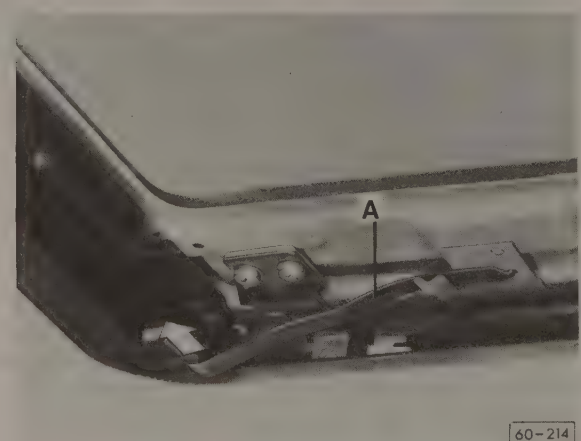
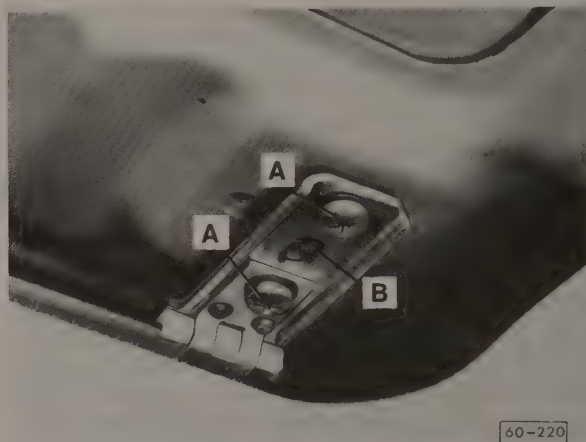
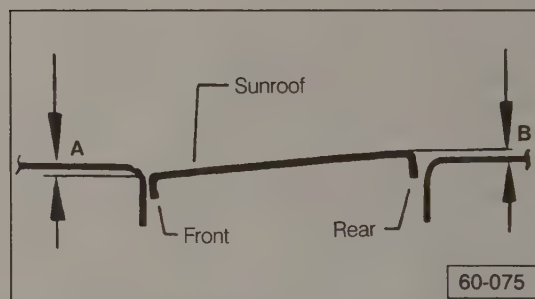
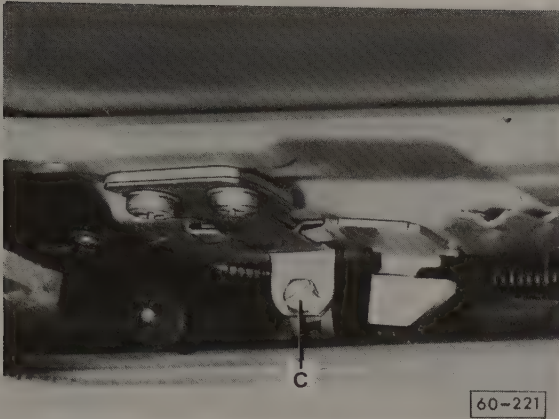

Fig. 7-3. Leaf springs (A) being pivoted inward (arrow).
Fig. 7-6. Sunroof front height being adjusted. Screws A hold front guide to sunroof. Screw B adjusts height.
Fig. 7-7. Correctly adjusted sunroof. Dimension A and dimension B are 0 to 1 mm (0 to .04 in.).
Fig. 7-8. Sunroof rear height being adjusted. Screw **C** is loosened for adjustment.
3. At the rear guides, unhook the left and right leaf springs and swing them inward as indicated in Fig. 7-3.
2. Close the sunroof. Loosen the mounting screws that hold the sunroof to the front guides, then turn the adjustment screw shown in Fig. 7-6 until the front of the sunroof is aligned as shown in Fig. 7-7. Tighten the mounting screws.
3. Remove the spring from the rear guides. See Fig. 7-3 above. Loosen the screws shown in Fig. 7-8 to adjust rear height by raising or lowering the sunroof by hand. Tighten the screws when the adjustment is correct as shown above in Fig. 7-7, and install the spring.